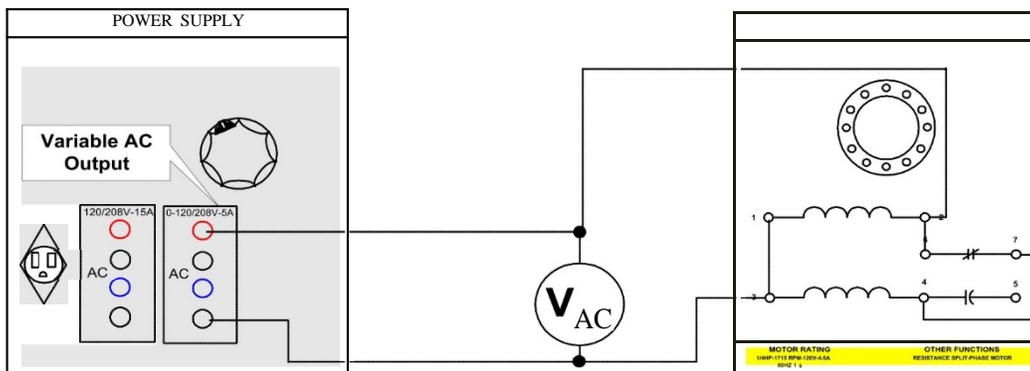

FIGURE 8.7
Step 21: Connect the circuit shown in Figure 8.7. The centrifugal switch is connected in series with the auxiliary winding and both windings are connected in parallel across the 100Vac power source terminals 4 and N. Note that the capacitor, connected between terminals 4 and 5, is not used when the module is operated as a split-phase motor.